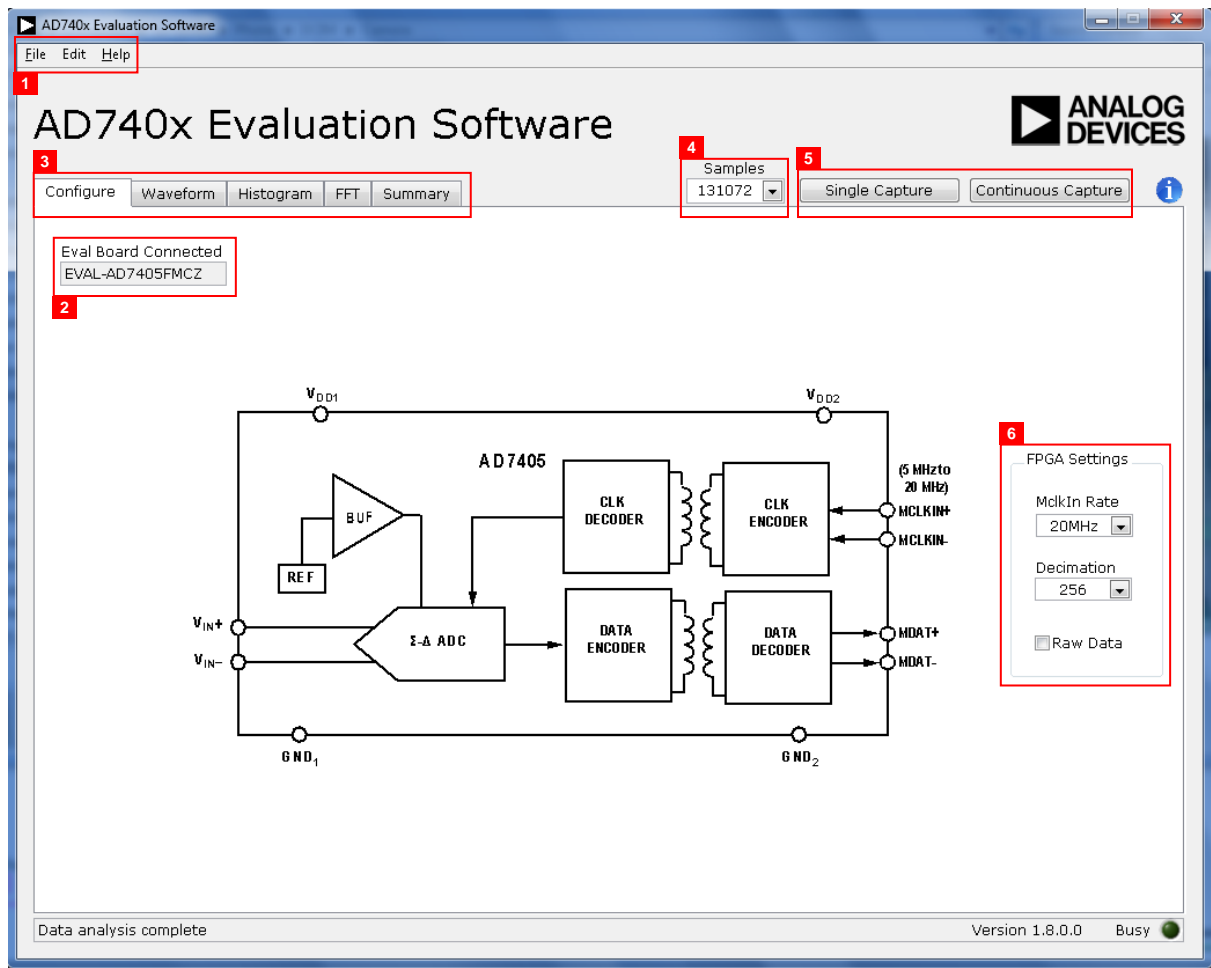

Figure 14. Evaluation Software Main Window
1. From the **Start** menu, select **Programs > Analog Devices > AD7405**. The main window of the software then opens (see Figure 14).
When the software is launched, the main software window opens (see Figure 14).
The evaluation software panel as shown in Figure 14 has the following features:
The menu bar, labeled 1 in Figure 14, consists of the **File**, **Edit**, and **Help** menus.
- The **Eval Board Connected** box (labeled 2 in Figure 14) indicates whether the **EVAL-AD7405FMCZ** board has been detected.
- The **FPGA Settings** section (labeled 6 in Figure 14) specifies the MCLK frequency used for the serial interface and the decimation ratio used by the FPGA to filter the data.
- The **Samples** drop-down box (labeled 4 in Figure 14) allows selecting the number of samples to be captured in a single acquisition.
- Clicking **Single Capture** (see label 5 in Figure 14) initiates the sampling and readback of the number of measurements defined in the **Samples** box.
- Clicking **Continuous Capture** (see label 5 in Figure 14) performs a continuous capture from the ADC. Clicking **Continuous Capture** a second time to stop sampling.
There are five tabs available in the tabs area (labeled 3 in Figure 14) of the main window: **Configure**, **Waveform**, **Histogram**, **FFT**, and **Summary**. These tabs are used to switch among device configuration, waveform analysis, histogram analysis, FFT analysis, and a summary of the last capture. Each tab is described in more detail in the Generating a Waveform Analysis Report; Generating a Histogram of the ADC Code Distribution; Generating a Fast Fourier Transform of AC Characteristics; and Generating a Summary of the Waveform, Histogram, and Fast Fourier Transform sections.